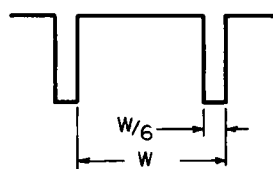

Fig. 3A
- (5) Connect the INPUT jack (INPUT MULT terminated) of the oscilloscope to the VIDEO OUT jack of the 61C. (If an L5 scope is used, insert a short-circuit plug in the right-hand input jack and a 75-ohm termination in the left-hand input multiple jack.) Adjust SYNC WIDTH and SYNC AMP to obtain a synchronizing pulse similar to Fig. 3A.